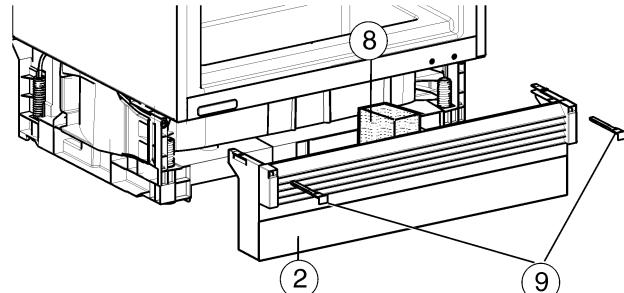

Fig. 13
- Insert the foam element Fig. 13 (8) - functionally important for separate air currents!
- Reinstall the plinth trim Fig. 13 (2).
- If the plinth trim Fig. 13 (2) is visible, pull it forward as far as possible so that the front edge of the ventilation grid and the unit plinth trim lie flush.
- If the plinth trim Fig. 13 (2) is covered, push it fully back.
- Make sure the ventilation slots are completely unobstructed: If necessary, crop the height of the unit plinth trim (U)!
- Adjust the height of the rack (V) below the appliance plinth trim along the width of the recess (W).
- Affix the plinth trim: Keep a steady grip on the plinth trim and insert the latch Fig. 13 (9).